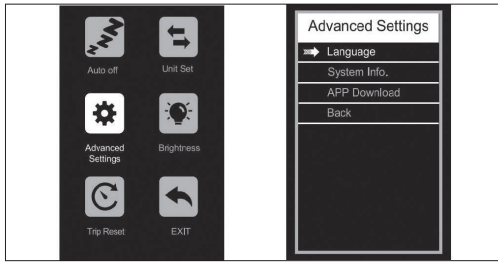

Figure 4-3
- Advanced Settings:** If you Enter the Settings, you can adjust the language Settings, view the product version information and download the APP, as shown in the (Figure 4-3).